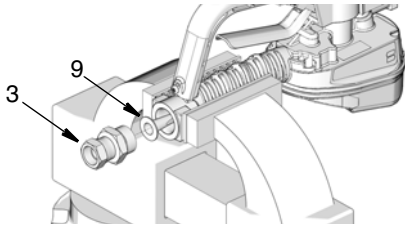

FIG. 2
2. Install strainer (9) and fitting (3) in the inlet (FIG. 2). Use wrench to tighten fitting.